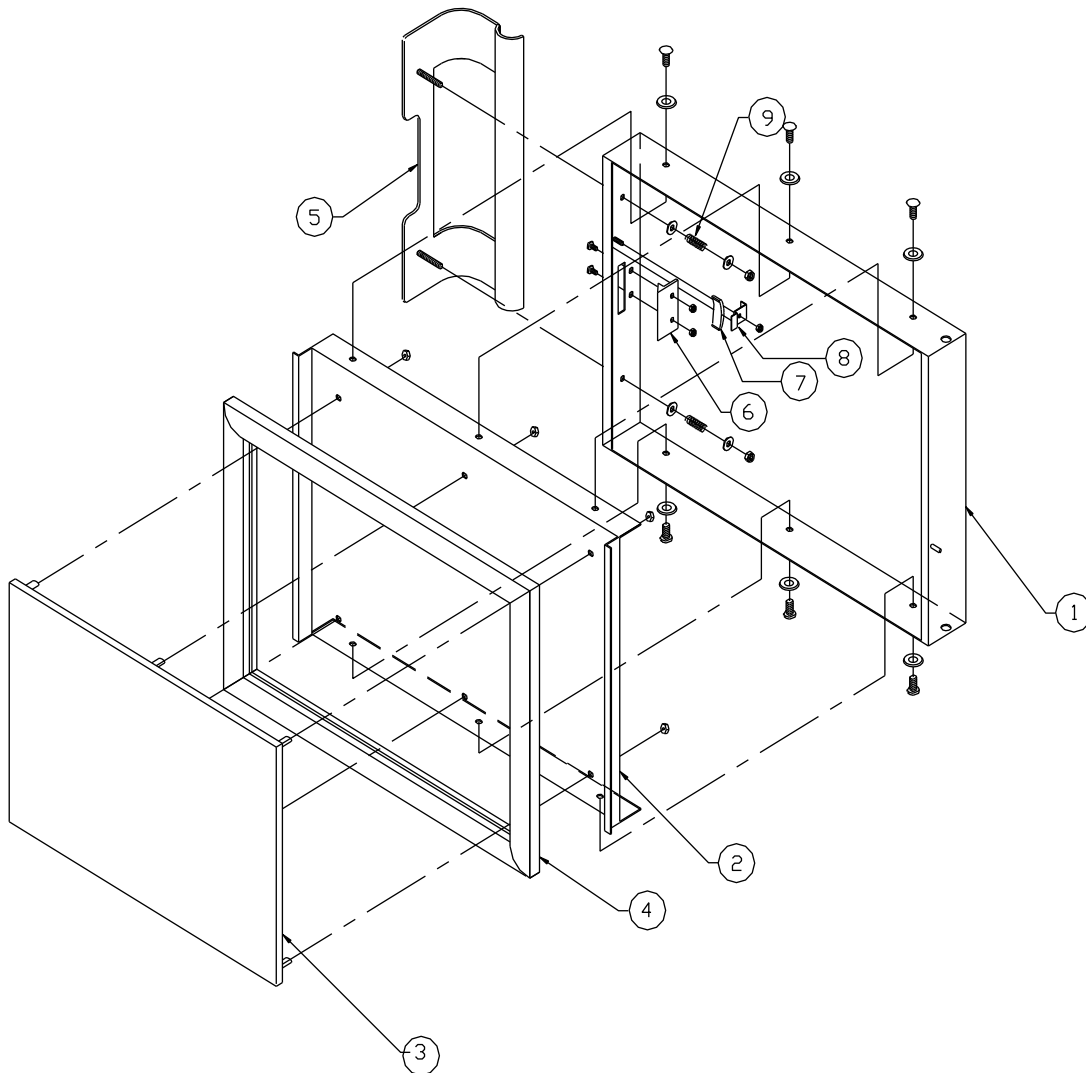

Figure 7-2 Door Assembly
5. Install the new door gasket (see *Figure 7-2 for part number*) to the mounting plate.